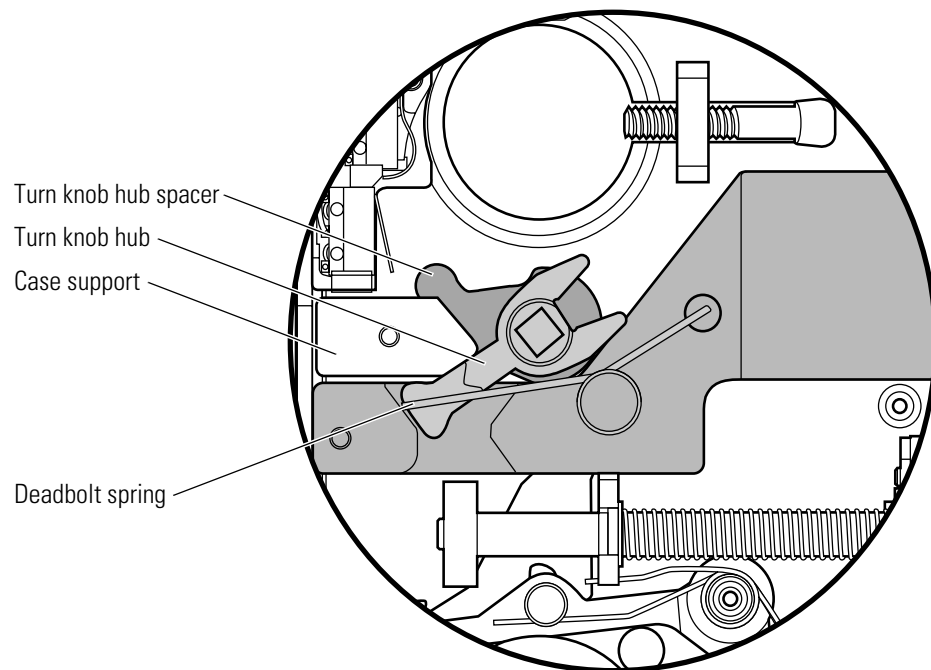

Figure 6.12 Positioning the turn knob hub and deadbolt spring
1. Position the turn knob hub spacer so that the tail fits under the case support. See Figure 6.12.
3. Insert the turn knob hub into the turn knob hub spacer so that the tail of the turn knob hub is positioned against the deadbolt, as shown in Figure 6.12.
4. Position the spring on the deadbolt against the turn knob hub, as shown in Figure 6.12.